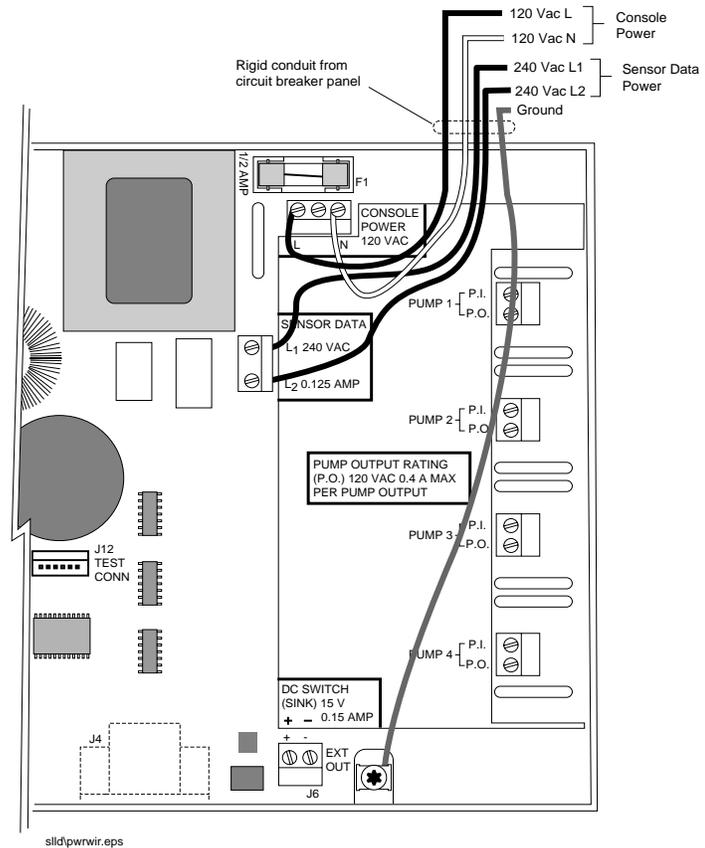

Figure 4. Wiring AC Power To The Console
2. Connect the five power wires to the console as diagrammed in Figure 4 on page 19.